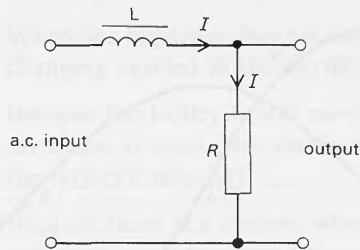

Figure H105
- 53(L)** Suppose that the input to the circuit of figure H105 is an alternating voltage of constant amplitude, but variable frequency.